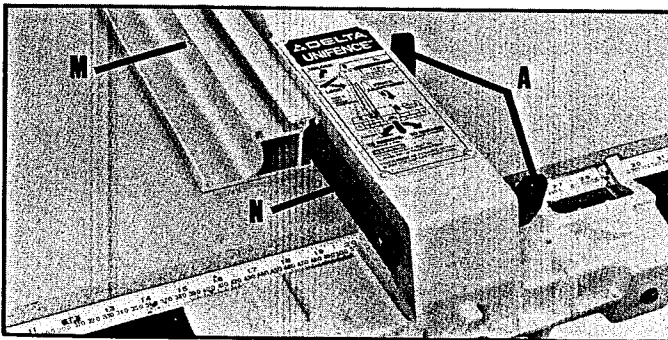
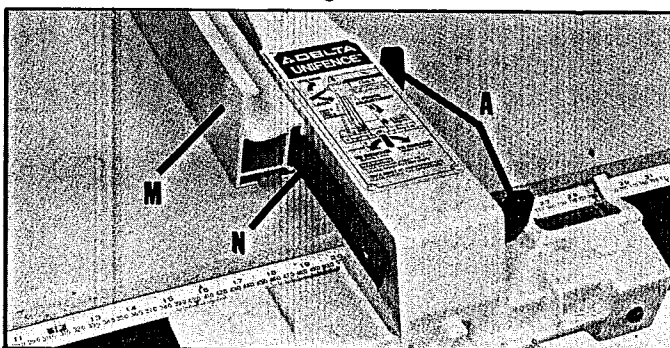

Fig. 39
Fig. 40
5. The fence (M) can be assembled to the clamp plate (N) in either the horizontal position as shown in Fig. 39, or the vertical position as shown in Fig. 40. Make sure the two lock knobs (A) are loose and slide the fence (M) onto the clamp plate (N) as shown in Fig. 39, and Fig. 40.